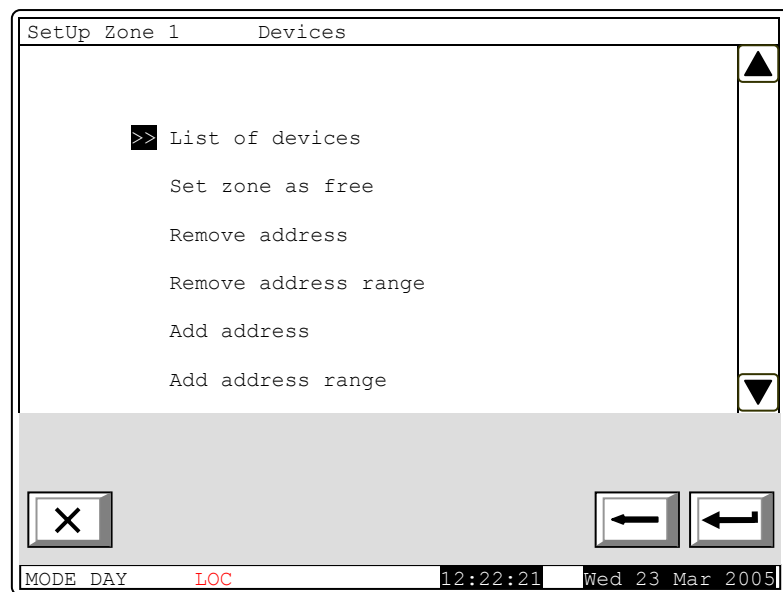

fig.1
- Assign the panel Addr. #1 local fire detectors to different project zones. From menu "Setup -> Zones -> Devices -> Add address or Add address range" (fig.1)
- Assign the panel Addr. #101 local fire detectors to different project zones. From menu "Setup -> Zones -> Devices -> Add address or Add address range". (fig.1)